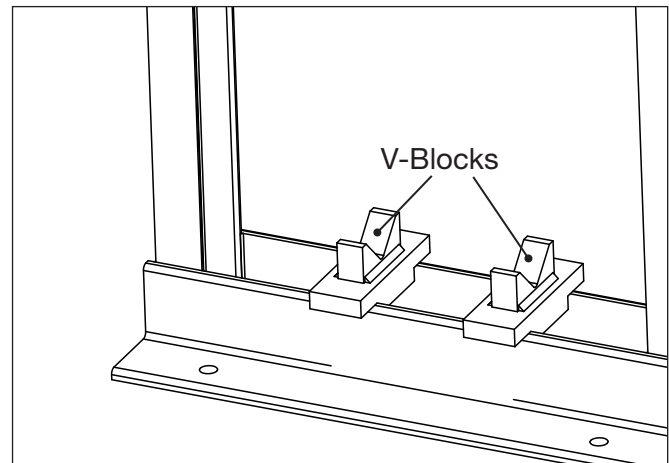

Figure 10: Enerpac V-Blocks (optional accessory)
Enerpac V-Blocks (model VB-10) are available as an optional accessory. They can be used to facilitate the positioning of pipes and bars. See Figure 10.
■ Optional accessory (See Figure 10). Two V-blocks are included in each kit. Order as required.